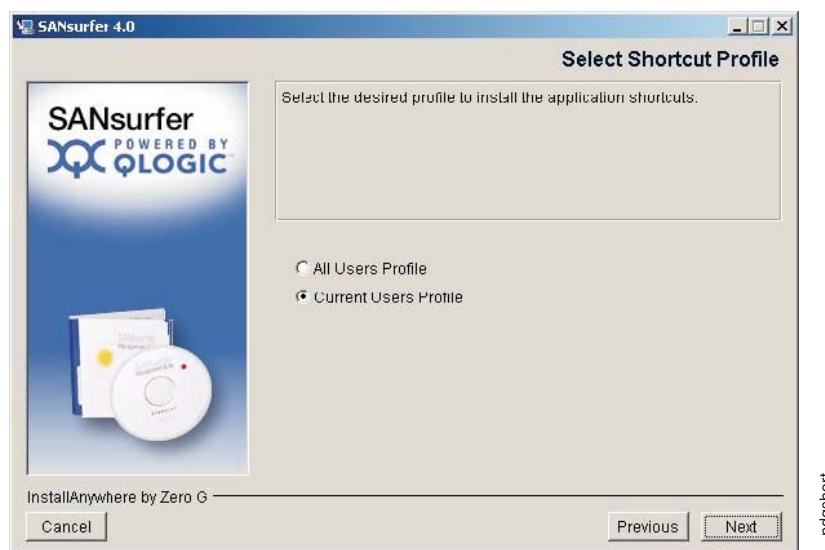

Figure 7. Select Shortcut Profile window
- 7. If you are installing the SANsurfer FC HBA Manager GUI on a Windows 2000/Windows Server 2003 system, the Select Shortcut Profile window opens as shown in Figure 7